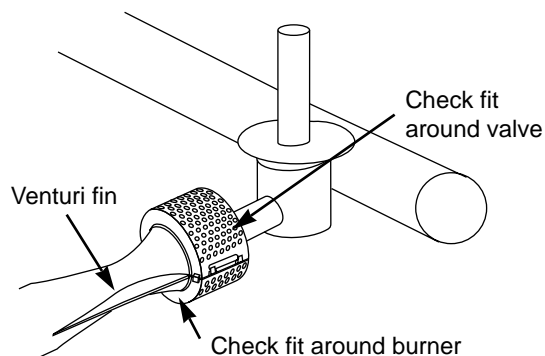

Figure 14
- j) Reinstall the Spider Stopper Guards. Slightly rotate the Spider Stopper Guards so that the seams are in line with the Venturi fins. There should be no gaps in the seams or in the fit around the burners and valves. Figure 14.